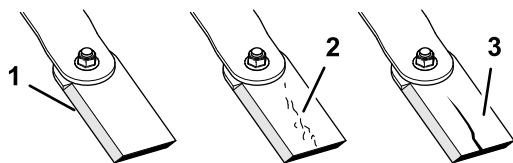

Figure 35
1. Inspect the cutting edges (Figure 35).
4. If you notice any crack or wear, immediately install a new blade (Figure 35).